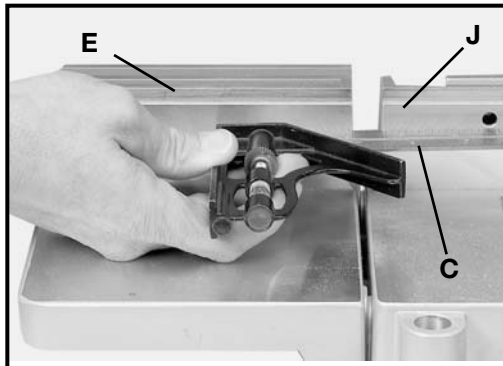

Fig. 7E
5. Use a straight edge (C) Fig. 7E, to level the fence slide support (E) with saw fence (J), and tighten the two